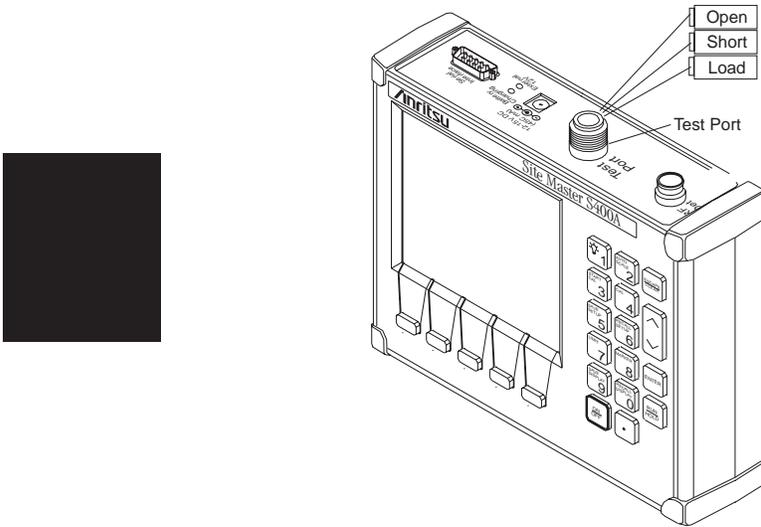

Figure 3-1. Measurement Calibration Test Setup
Test Port (Figure 3-1) prior to pressing **ENTER**.
- Step 11.** Perform a measurement calibration, using the **START CAL** key. At the resulting Perform Calibration menu display, use the **Up/Down Arrow** key to select CAL A or CAL B, then press **ENTER**. Follow the ensuing “Connect OPEN, Press ENTER,” “Connect SHORT, Press ENTER,” and “Connect LOAD, Press ENTER” instructions that appear in the message area. Connect the respective Open, Short, and Load component to the **Site Master** Test Port (Figure 3-1, page 3-6) prior to pressing **ENTER**.